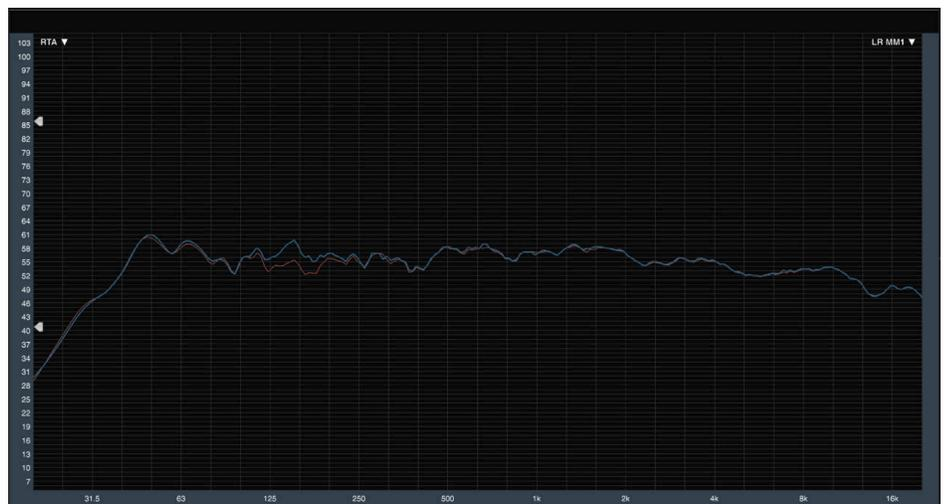

FIGURE 21
- A few PEQ's were added to adjust for some room correction. The image below (Figure 21) shows the room response after the addition of PEQ's. The blue line indicates the room without additional EQ, and the red line indicates the use of PEQ's. This is to compensate for the room interaction at a very basic level. Adjustments were made to frequencies from 63Hz – 1kHz.